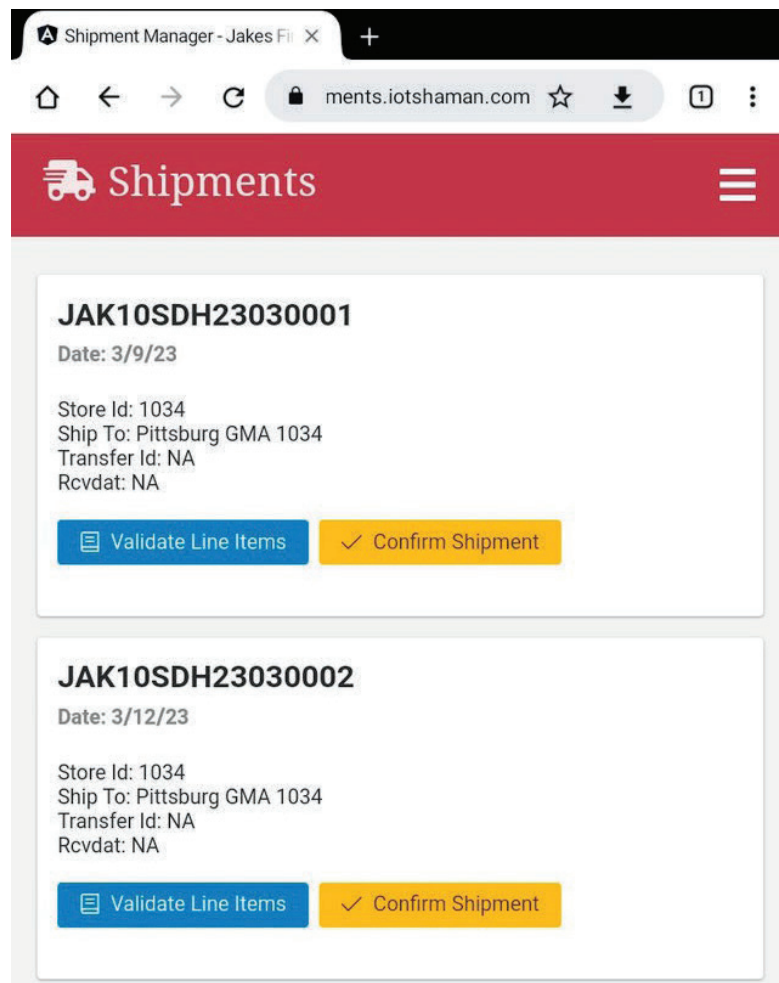

Figure 17
8. Click CONFIRM SHIPMENT (Figure 17)